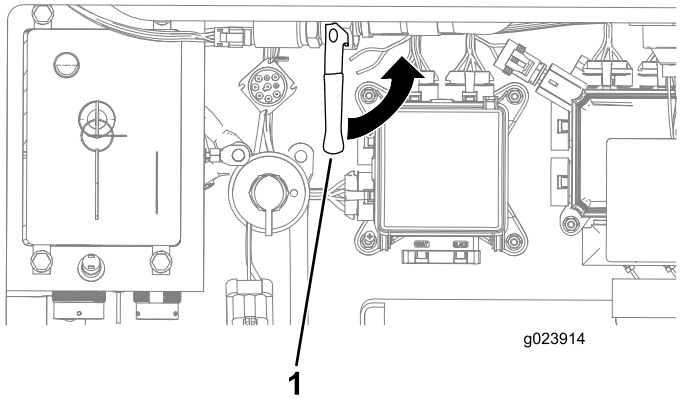

Figure 130
A. Open the antifreeze valve inside of the rear compartment (Figure 130).
6. Close the antifreeze valve (Figure 130).